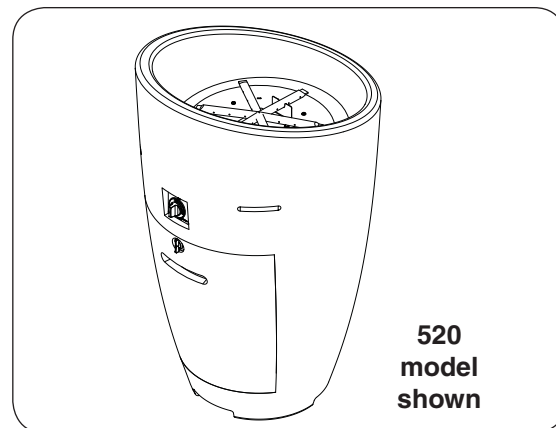

Fig. 15-1 Place urn
**CAREFULLY** place the urn in an appropriate location (see Fig. 15-1, and refer back to the LOCATION section if needed).